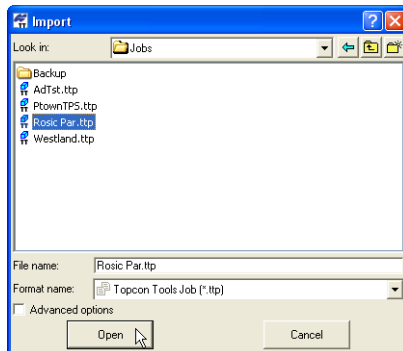

Figure 3-23. Import Topcon Tools Job
4. Click **Open** to import the file (Figure 3-23).